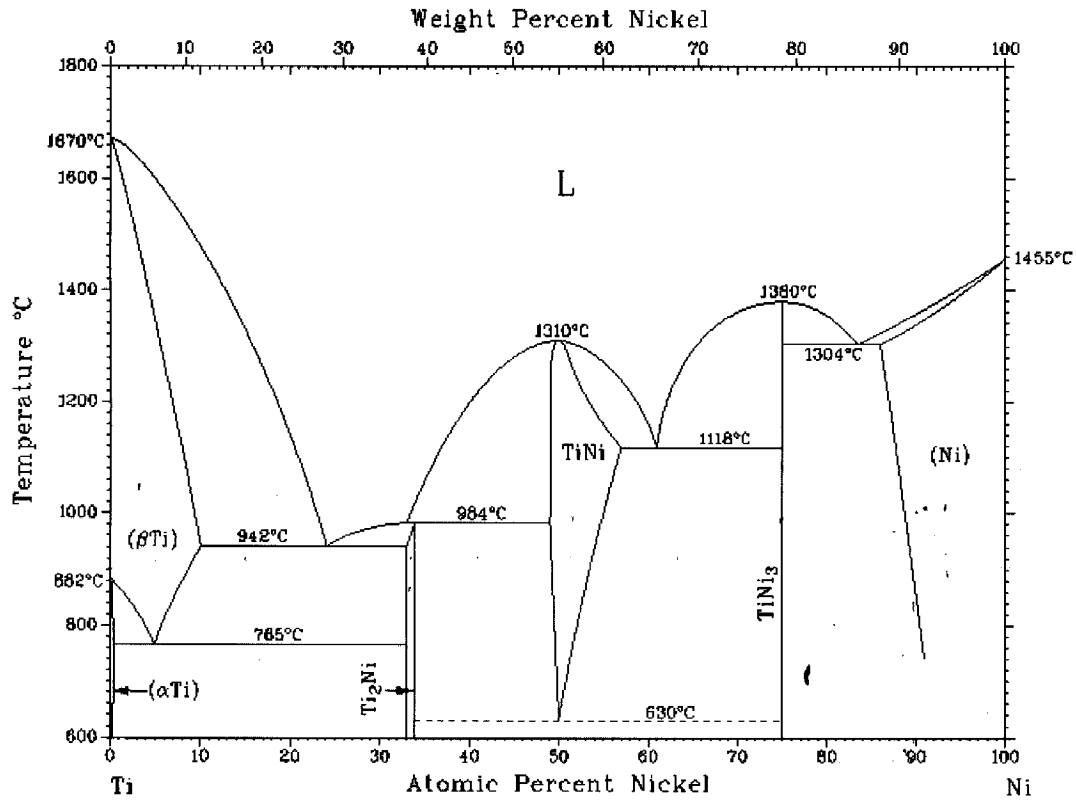

Figure 5 Ti-Ni binary phase diagram
3. Thick titanium (Ti) and nickel (Ni) metal plates are attached against each other (=semi-infinite diffusion couple) at the temperature of 900°C. Based on the phase diagram (see Fig. 5) draw the structure of the diffusion couple and the composition profiles for both components, when sufficient amount of time has elapsed so that local equilibria is achieved in all interfaces. (NB. Mark clearly the compositions of the phases at all interfaces!) In addition, explain what happens if temperature is then increased by 50°C (i.e. up to 950°C) (5p)